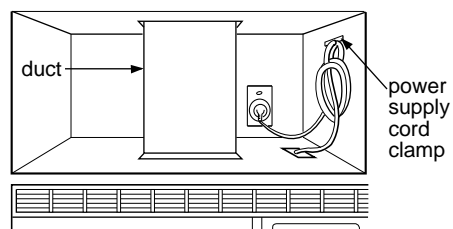

Figure 29
4. **ROOF VENTED INSTALLATION:** Install ductwork through the vent opening in the upper cabinet. Complete the venting system through the roof according to the method needed. See Figure 29. See **PREPARE THE VENTING SYSTEM, STEP 2** on the page 8. Use caulking to seal the exterior roof opening around the exhaust cap. See Figure 5 on page 8.
5. Use the power supply cord clamp to bundle the power supply cord. Install the power supply cord clamp, using a screw as shown in Figure 29, to inside of the cabinet.